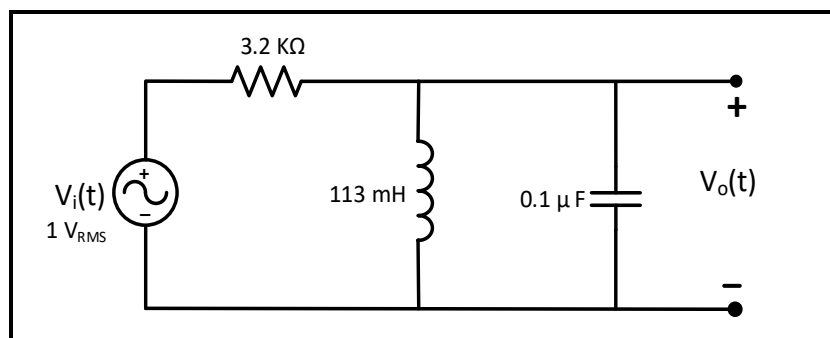

Figure 9.15
5. Calculate the center frequency (f_0), two cut-off frequencies (f_{C1} and f_{C2}), and bandwidth (β) in Hertz for the circuit in Figure 9.15 with two values of R (3.2 k Ω and 1.6 k Ω)
1. Connect the circuit of Figure 9.15, with a sinusoidal input voltage at 1 V_{RMS} , use decade box for R.
6. Repeat steps (3-5) for the circuit of figure 9.15 using $R = 1.6 \text{ k}\Omega$, record results in Table 9.4.